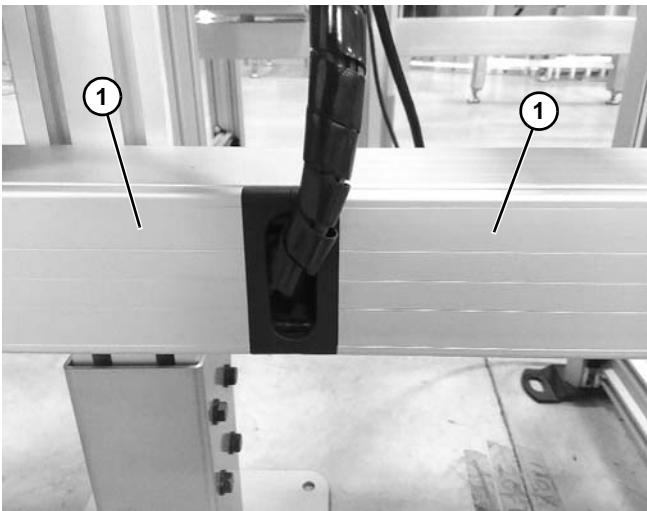

Figure 21
19. Measure and cut enclosure covers (**Figure 21, item 1**) to length.